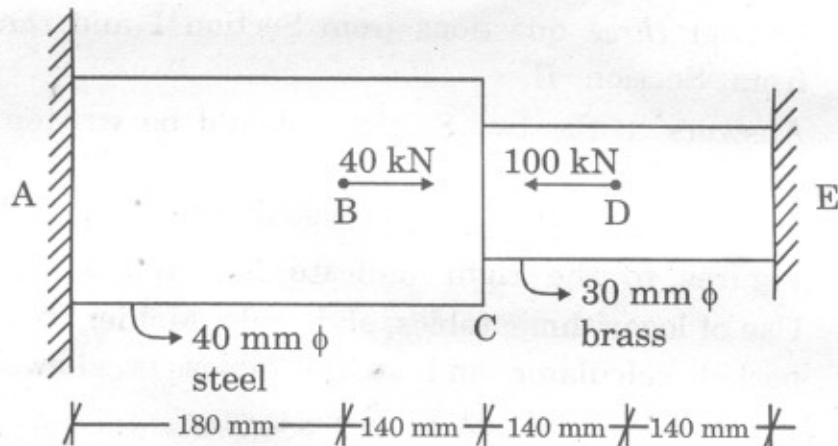

Fig. 1.2
- (b) Two cylindrical rods one of steel and other of brass are joined at 'C' and supported rigidly at 'A' and 'E' as shown in Fig. 1.2. Determine the reactions at the ends and displacement of the junction. Take  $E_{st} = 200$  GPa,  $E_{Al} = 100$  GPa. [8]